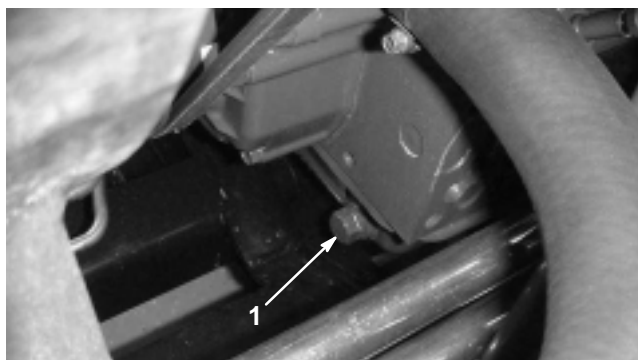

Figure 31
1. Remove the rear drain plug (Fig. 31) and let the oil flow into a drain pan. When the oil stops, install the drain plug.